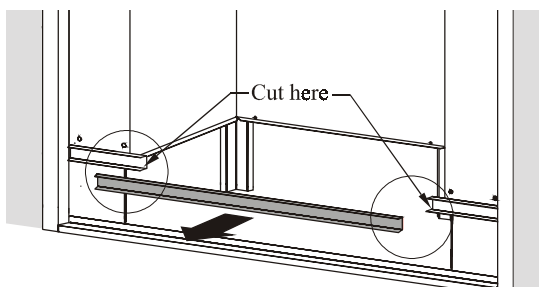

Figure 16. *Cutting the front bar.*
6. Cut the front bar to allow clearance to install the Heating Insert Using a hacksaw, make the cut approximately 2" in from the side of the firebox, as shown in figure 16.